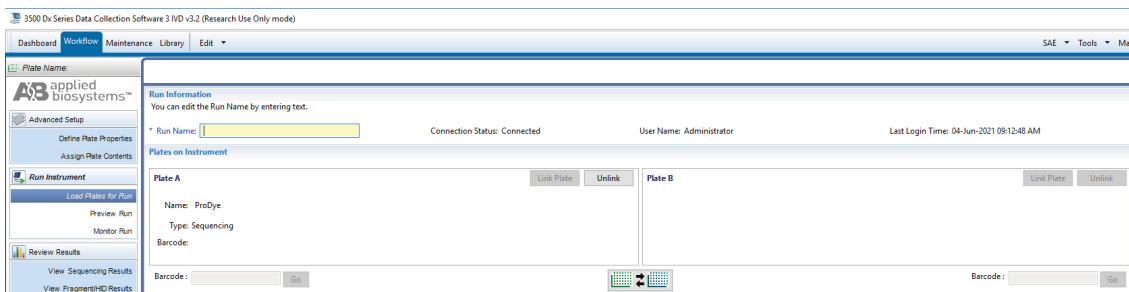

Figure 27. Assigning a run name.
10. In the 'Run Information' window (Figure 27), assign a Run Name. Select **Start Run** (not shown).